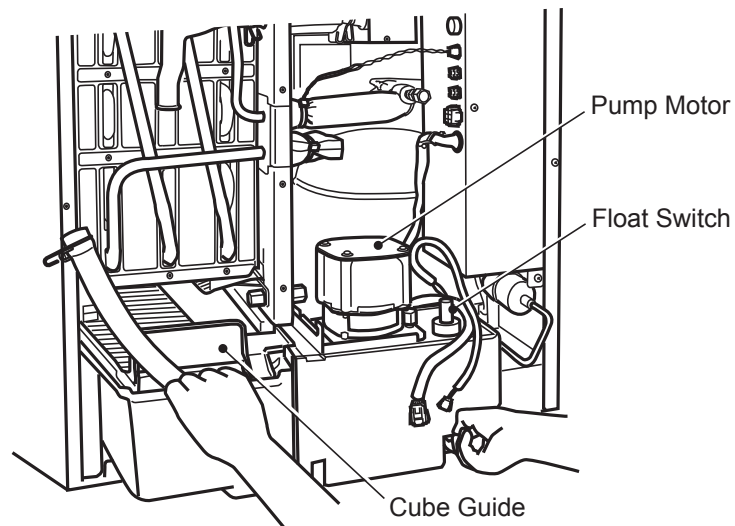

Fig. 9
- e. Pull out the water tank, cube guide, pump motor bracket, pump motor and float switch together. See Fig. 9.